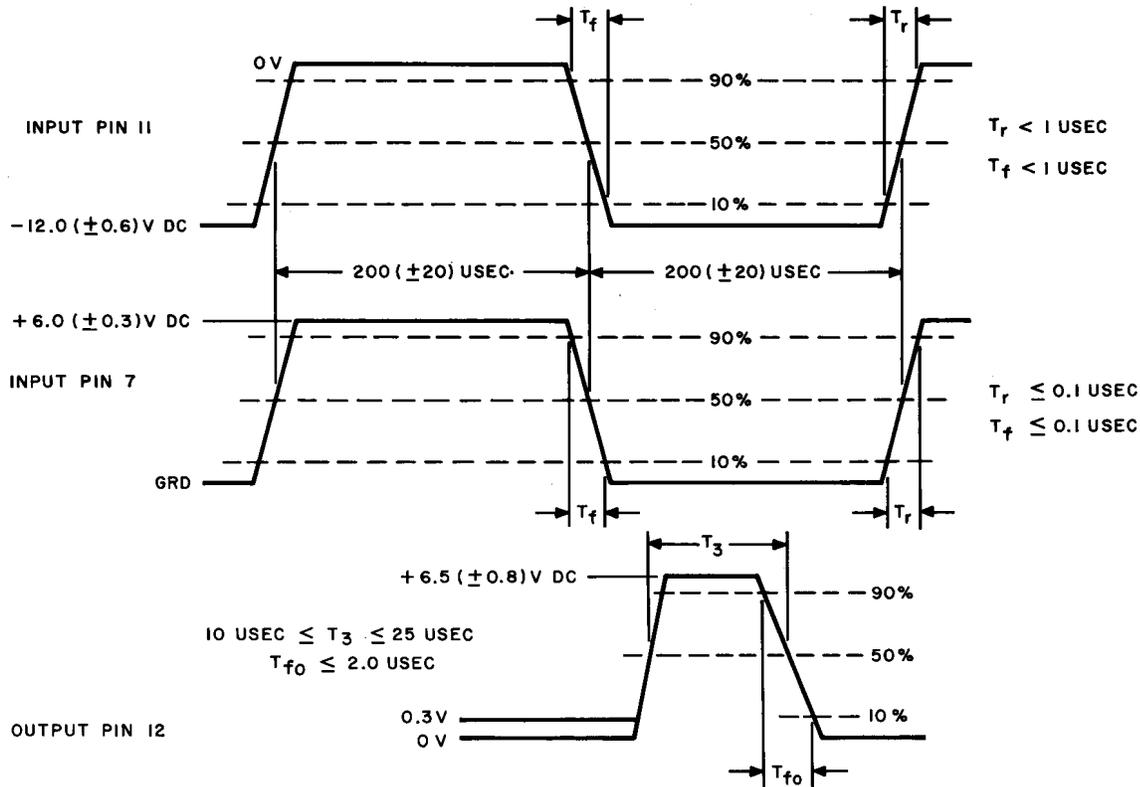

Fig. 53A — Remote Test Circuit Pack, Test
- (6) The input waveforms at terminals 7 and 11 shall be as specified in Fig. 53A. The relative phase of the input waveforms is immaterial.
- (7) The voltage at test point 5, when measured with the voltmeter, should be +10.0 (± 1.5) Vdc.
- (8) Set the scope EXT SYNC TRIGGER selector to the (-) negative position.
- (9) The output waveform shall be as specified in Fig. 53A.